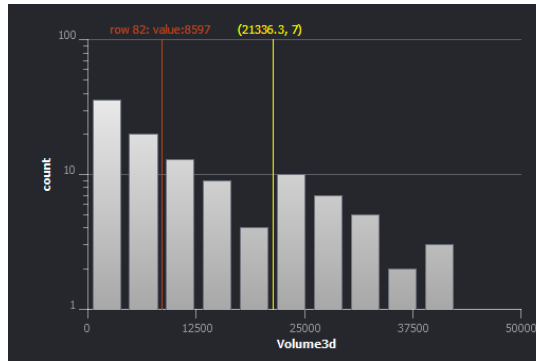

Figure 6.14: Line in the histogram corresponding to row 82
- Select a cell of the analysis lower table. The point dragger will move to the corresponding object location in the 3D view. If the histogram of one of the analysis measures is displayed, a vertical line appears that displays the position and value of the selected row, as shown on Figure 6.14.